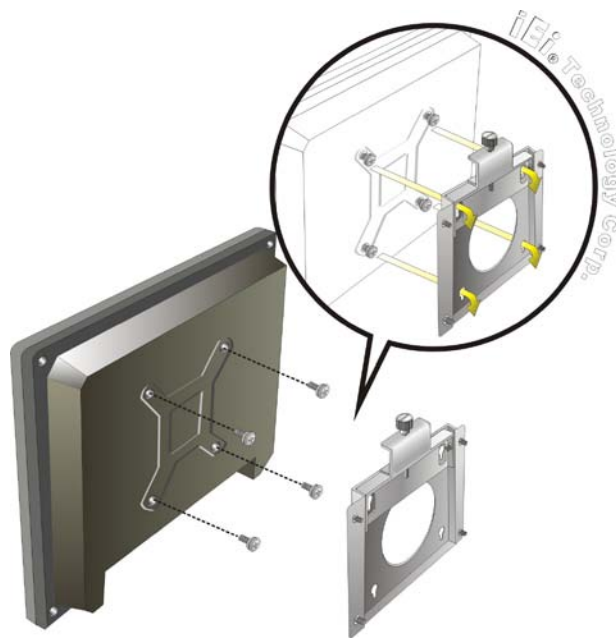

Figure 4-17: Chassis Support Screws
Step 8: Insert the four monitor mounting screws provided in the wall mount kit into the four screw holes on the rear panel of the flat bezel panel PC and tighten until the screw shank is secured against the rear panel (**Figure 4-17**).
Step 10: Carefully insert the screws through the holes and gently pull the monitor downwards until the monitor rests securely in the slotted holes (**Figure 4-17**). Ensure that all four of the mounting screws fit snugly into their respective slotted holes.